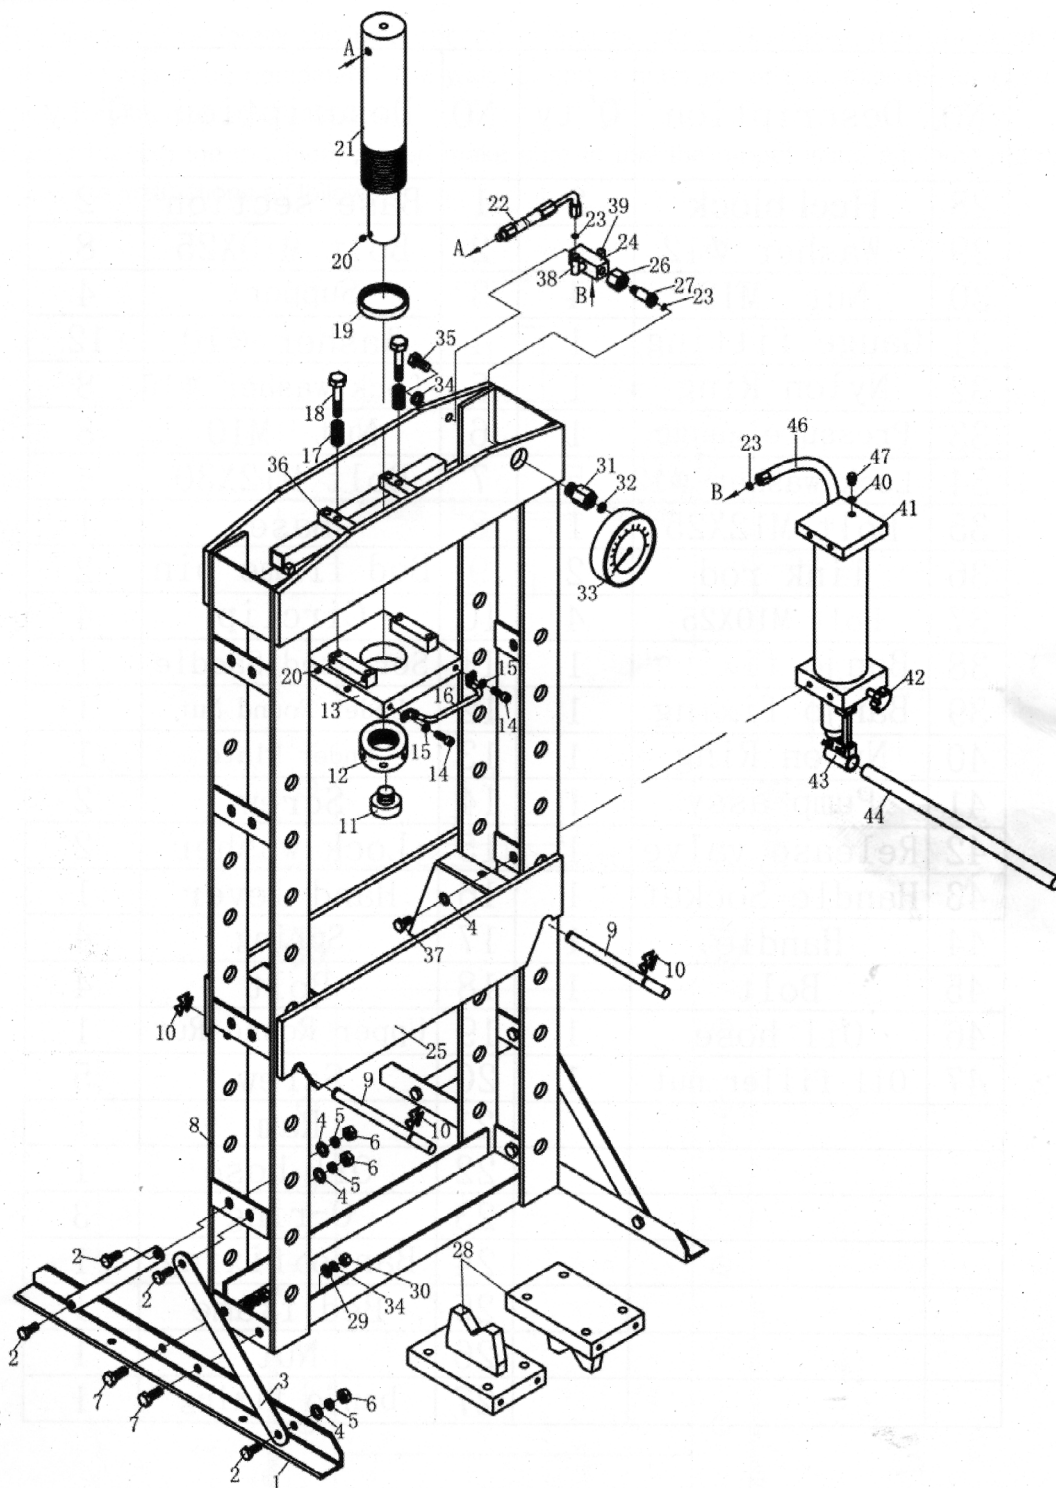

Fig.4
3.1 YK209F.V2 20TONNE PRESS ASSEMBLY (use the exploded diagram Fig.4 as a guide to assembly as well as the diagrams below).
3.1.4. Assemble the gauge fitting (31) the nylon ring (32), (which fits between the gauge and the gauge fitting see fig.4), and the gauge (33). Twist the gauge as tight as possible to prevent it from leaking. Then the gauge and gauge fitting are fitted to the manifold (24).